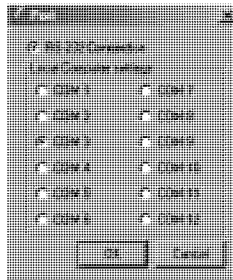

Figure 12: The Port Window – Selecting a Virtual Serial Port
4. In the control application, choose the COM-port connection according to your virtual serial port connections (see Figure 12).